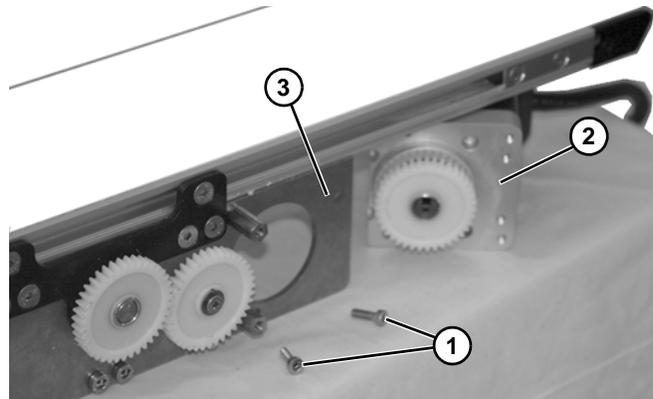

Figure 31
9. Remove two screws (Figure 31, item 1) from gearmotor.
10. Remove gearmotor (Figure 31, item 2) from mounting plate (Figure 31, item 3).